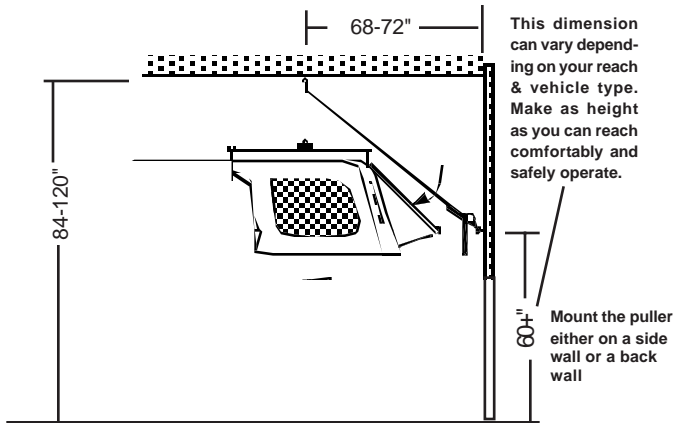

Figure 2, Typical Layout Measurement
1 Prepare your site, measure and mark according to Figure 2. Use the following diagram and mount the 1/2" Eye Bolt (5) by drilling a 3/8" hole in the ceiling joist as shown in Figure 3.
At a wall (*side wall or back wall*) as shown in Figure 2, about 60" or higher (better) from the floor, drill a 3/8" hole in the stud and mount the second Eye Bolt (6).